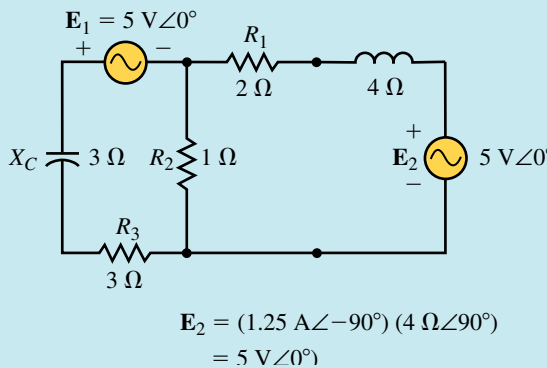

FIGURE 19-13
Step 1: The current source is first converted into an equivalent voltage source as shown in Figure 19-13.